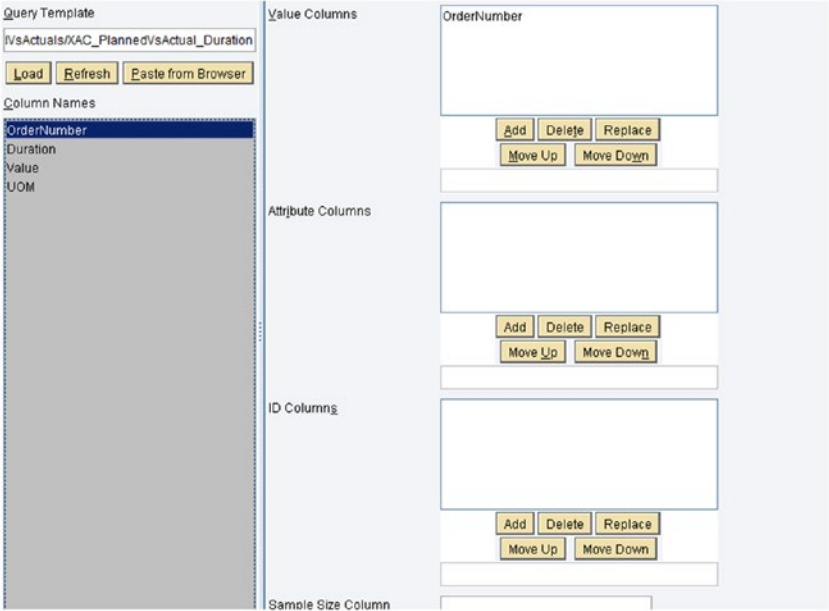

Figure 7-52. i5SPC chart data mapping configuration
- *i5SPC chart Data Mapping*: The Data Mapping tab maps columns returned by a query to the various elements of the i5SPC chart object. See Figure 7-52.